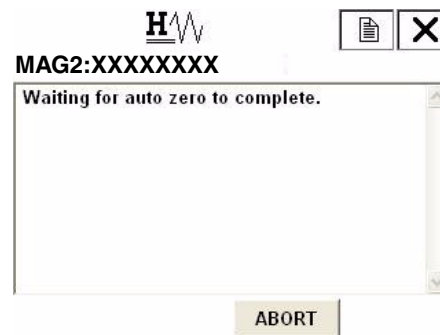

Figure 72.
3. When F4 (OK) is pressed, Figure 72 is displayed and starts adjusting the zero point. By pressing F3 (ABORT), the procedure is canceled.